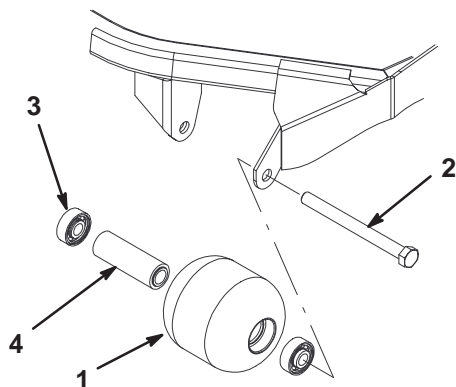

Figure 18
1. Remove roller mounting bolt (Fig. 18).
4. Inspect roller housing, bearings, and bearing spacer for damage (Fig. 18). Replace damaged components and re-assemble.
1. Press first bearing into roller housing (Fig. 18). Press on outer race only or equally on inner and outer race.
2. Insert spacer (Fig. 18).
3. Press second bearing into roller housing (Fig. 18) pressing equally on inner and outer race until the inner race comes in contact with spacer.